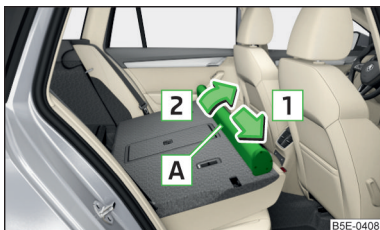

Fig. 149
- Push the housing **A** in the direction of the arrow **1** and remove it from the mountings in the direction of the arrow **2** » Fig. 149.